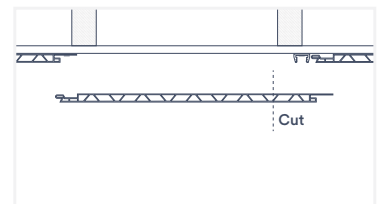

Fig. 35
7. Cut your replacement panel to fit between the existing panel joint and the U Channel base (Fig. 35)